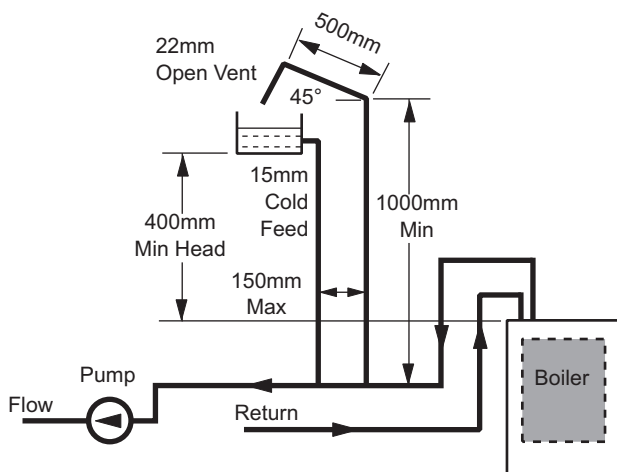

Fig. 5
1. The boiler data label gives details of the model, serial number and Gas Council number and is situated on the lower right hand inside face of the outercase. It is visible when the outercase front panel is removed (Fig. 5).